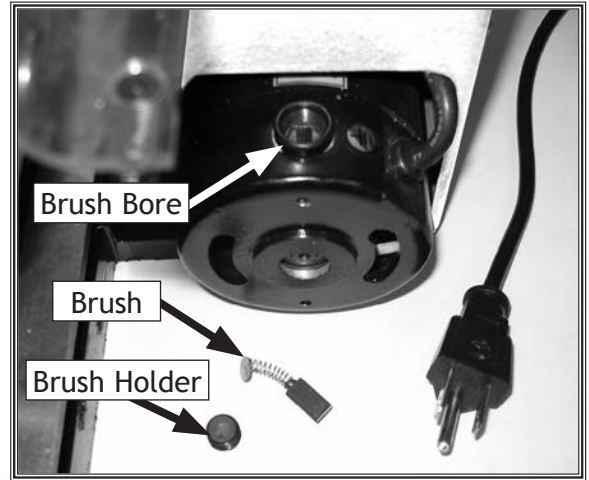

Figure 28. Motor brush and holder.
3. Unscrew two brush holders and replace the brushes in the brush bore (see **Figure 28**).